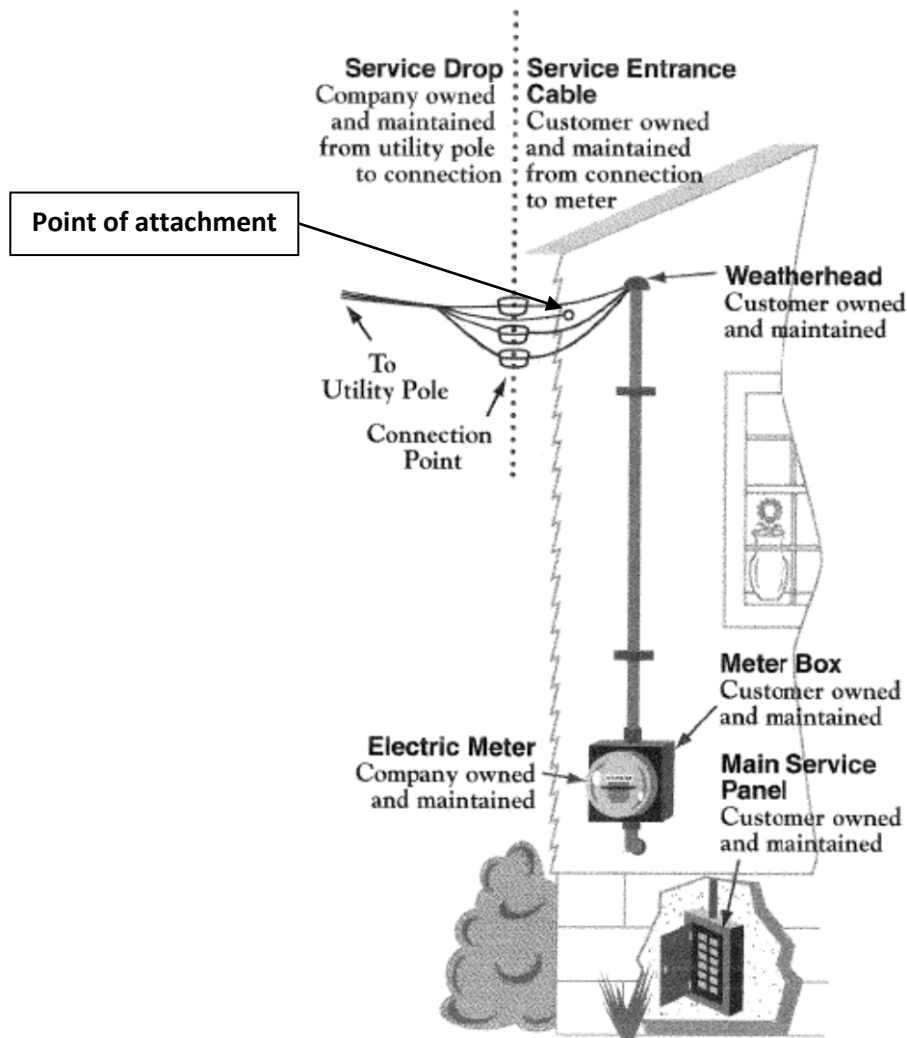

Figure 4.3.1 – Overhead Service Connections
4.3.1 PSEG Long Island/LIPA will install, own, and maintain the overhead service drop to supply service equipment. In those cases where the service drop exceeds 100', the customer may be required to contribute towards the cost of the excess, in accordance with the rate schedule. PSEG Long Island retains responsibility for the connection at the weather head (see Figure 4.3.1).